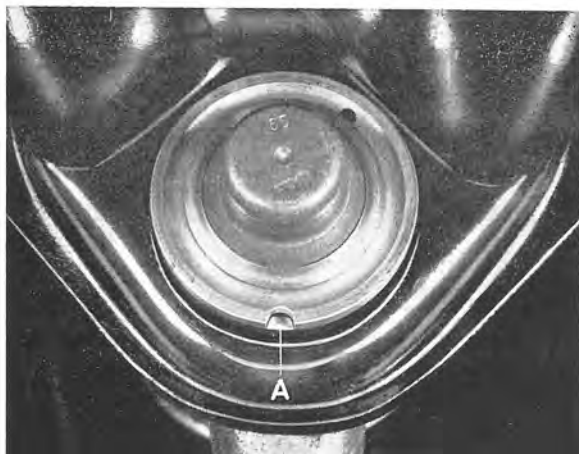
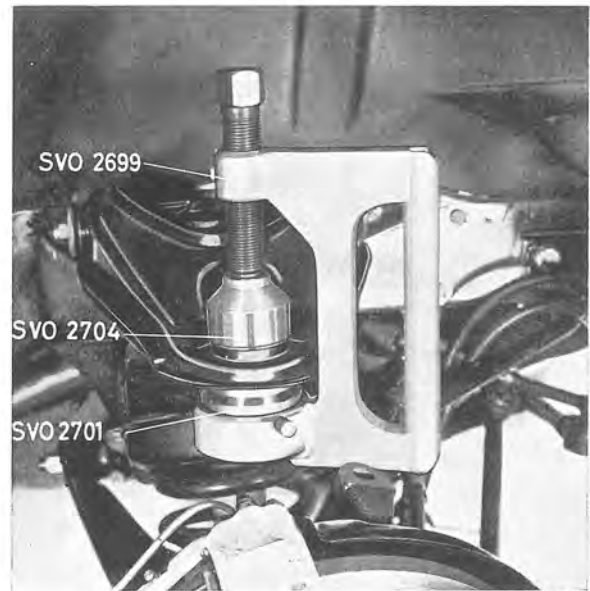

Fig. 6-22. Location of ball joint in upper control arm
Fig. 6-23. Installing upper ball joint
1. Before installing the ball joint, check that the rubber seal is filled with grease. Bend the pin end over the slot (A, Fig. 6-22) and check that the grease forces its way out. If necessary, top up with multipurpose grease.
2. Press the ball joint into the control arm with press tool 2699, sleeve 2701 and drift 2704, see Fig. 6-23. Make sure that the ball joint recess coincides with the longitudinal shaft of the control arm (within $\pm 8^\circ$) either externally or internally (Fig. 6-22) as the pin has maximum movement along this line. Should the ball joint be incorrectly fitted when being pressed in, turn the tool 2699 half a turn and then press the ball joint into the correct position. The ball joint must not be loose in the control arm.